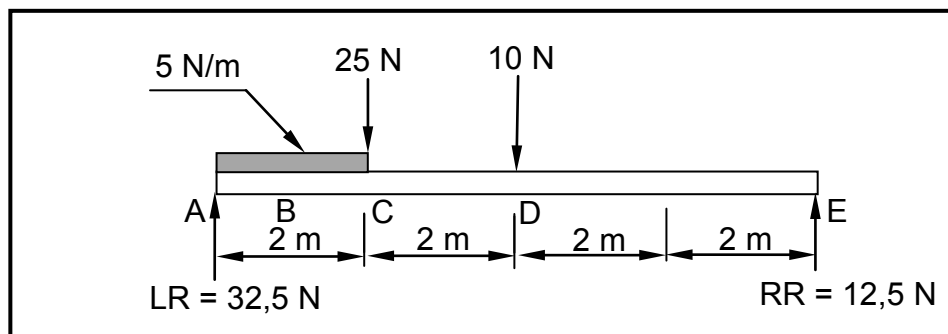

FIGURE 5.3
- 5.3 FIGURE 5.3 shows a beam of 8 metres resting on two supports. The beam carries a uniformly distributed load of 5 N/m and two point loads. Analyse the diagram and answer the questions that follow.